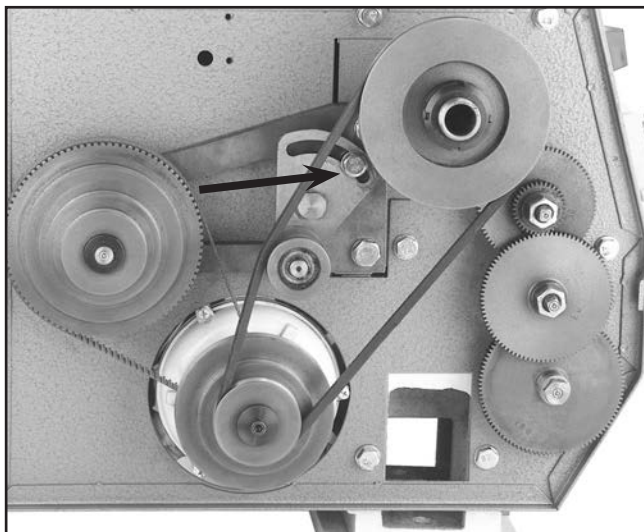

Figure 49. Tensioner adjustment bolt.
3. Loosen the bolt on the tensioner bracket (shown in **Figure 49**) with a 19mm wrench.